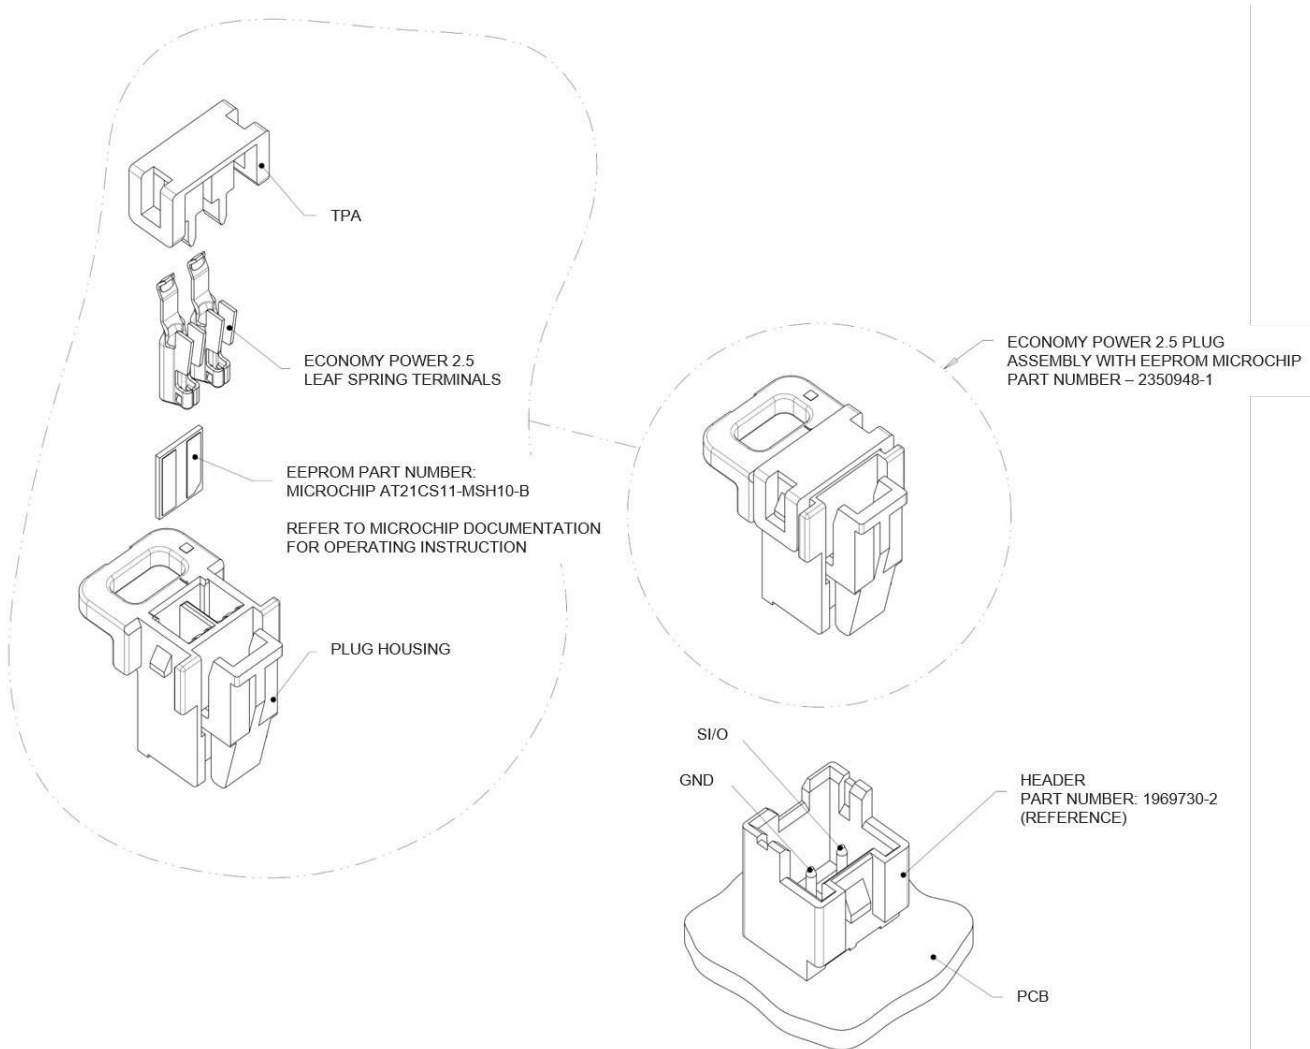

Figure 1
Basic terms and features of this product are listed in Figure 1.
- EEPROM Part Number added to Figure 1